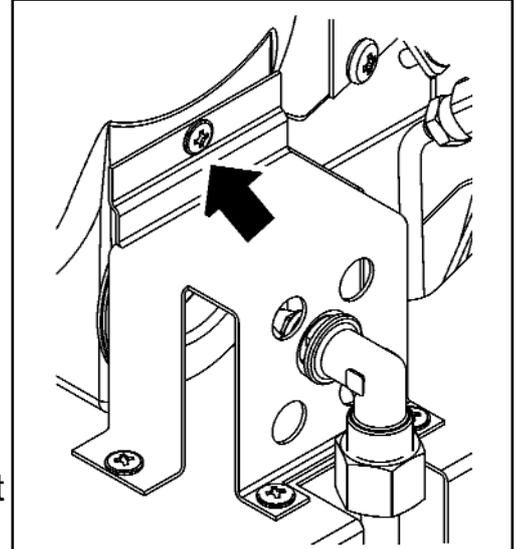

Figure 35. Burner removal
3. Remove the screw that secures the injector bracket to the burner (See figure 35).